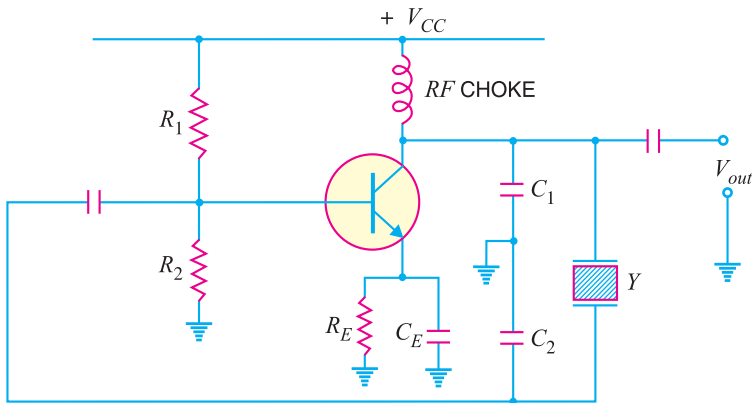

Fig. 14.23
Fig. 14.23 shows the transistor crystal oscillator. Note that it is a Colpitt's oscillator modified to act as a crystal oscillator. The only change is the addition of the crystal (Y) in the feedback network. The crystal will act as a parallel-tuned circuit. As you can see in this circuit that instead of